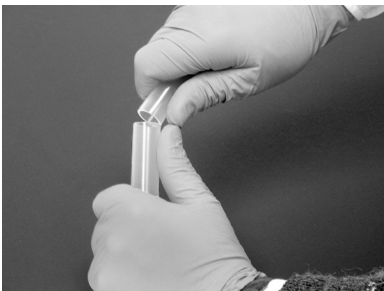

Figure 5.
8. Snap tubing on the cut line in one direction to begin break (Figure 5).